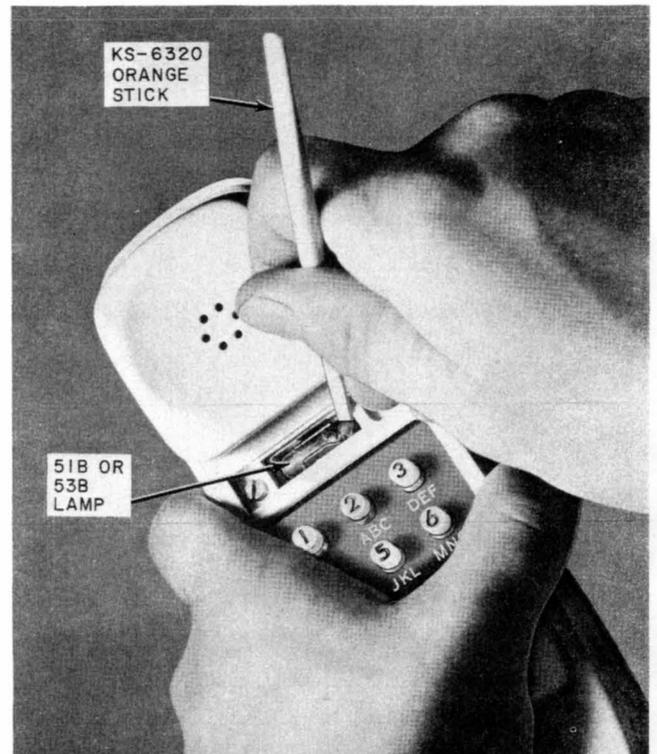
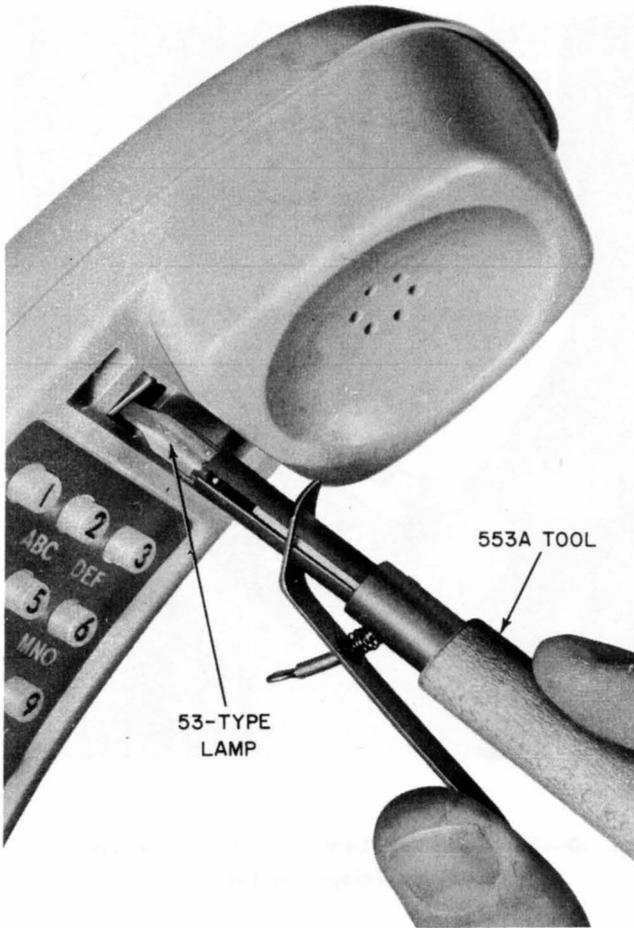

Fig. 10—Removing Dial Lamp From Current Production 1220A Hand Telephone Set
Fig. 11—Replacing Dial Lamp in Early Production 1220-Type Hand Telephone Set
5.05 To replace a dial lamp in the TRIMLINE hand telephone set, remove cover or number card retainer and light-seal plate. Current production hand telephone sets have the lamp in a horizontal position and a KS-6320 orange stick can be used to remove the lamp (Fig. 10). **EXERCISE CAUTION TO PREVENT THE LAMP FROM FLYING OUT OF THE SOCKET IN A DANGEROUS MANNER.** In early production hand telephone sets use a 553A tool to remove the lamp from its vertical position (Fig. 11).